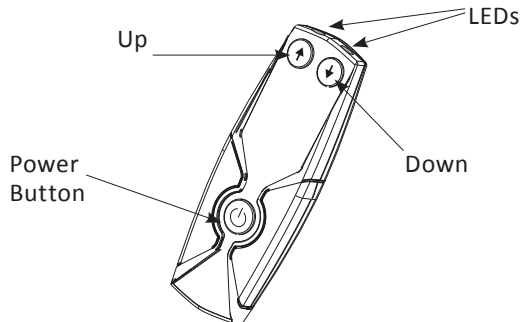

Figure 3-7
1. Start by activating the hand control with the power button. The hand control has two operating buttons, UP to raise and stow the platform and DOWN to draw out and lower the platform, that must be depressed and held to complete the desired function. The hand control has integrated LED lights that can be used as a flashlight at night. The hand control can be aimed at the ground or at the vehicle to assist in ensuring the path is unobstructed. *See Figure 3-7.*